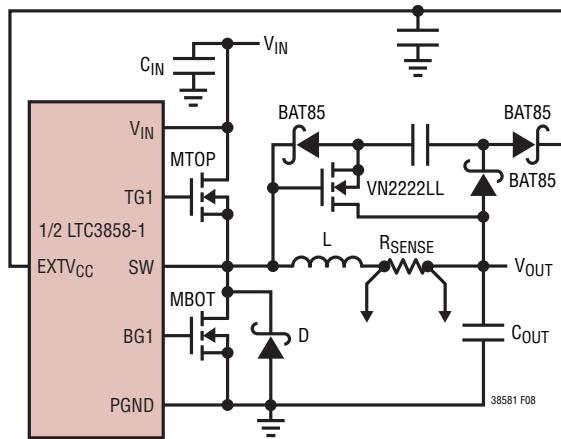

Figure 8. Capacitive Charge Pump for EXTV_{CC}
4. EXTV_{CC} Connected to an Output-Derived Boost Network. For 3.3V and other low voltage regulators, efficiency gains can still be realized by connecting EXTV_{CC} to an output-derived voltage that has been boosted to greater than 4.7V. This can be done with the capacitive charge pump shown in Figure 8. Ensure that $\text{EXTV}_{\text{CC}} < \text{V}_{\text{IN}}$.